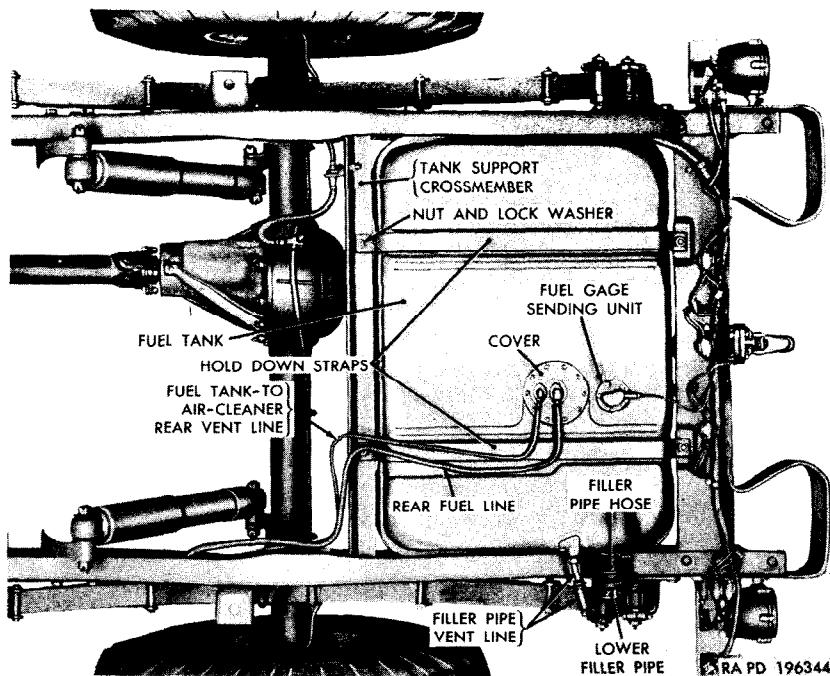
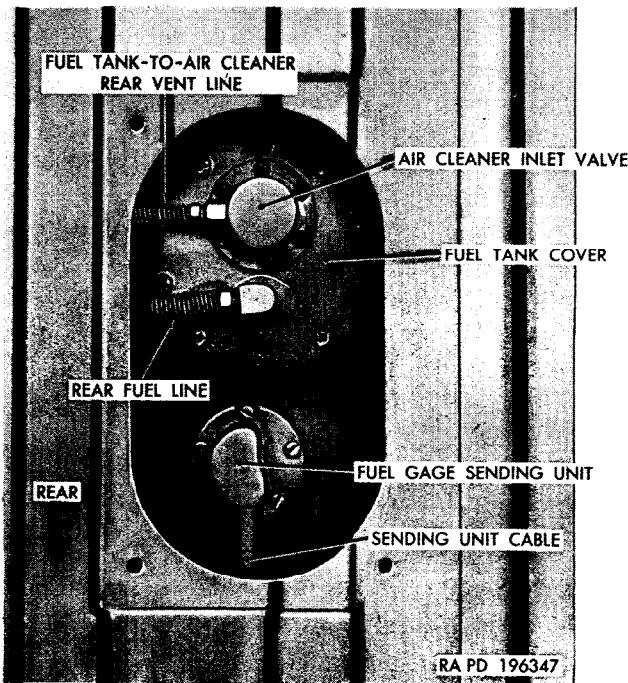

Figure 111. Fuel tank—top view (vehicle body removed).
Figure 114. Fuel tank cover, air cleaner inlet valve, and fuel gage sending unit.
- (1) Drain the fuel tank.
- (2) Remove the inspection hole cover from the floor panel and disconnect the fuel tank rear vent line (fig. 114), the rear fuel line, and the fuel gage sending unit cable.
- (1) Install the parts that were removed from the tank (*a(7)* above), using new gaskets for the lower filler pipe, the fuel gage sending unit (fig. 111), and the fuel tank cover and replacing any parts that are unfit for further service.
- (2) Apply a coating of liquid-type gasket cement to the upper and lower filler pipes and the upper and lower filler pipe vent lines and install new hoses on the upper filler pipe and upper vent line. Use a 3-inch length of $2\frac{1}{4}$ -inch (ID) hose for the filler pipe and a $2\frac{7}{8}$ -inch length of $\frac{1}{2}$ -inch (ID) hose for the vent line. Install the two hose clamps on each hose, and push hoses on lower filler pipe and lower vent line as far as they will go.
- (3) Install the tank in position under the two holdown straps, raising the left end first to position it between the frame left side rail and the vehicle body. Raise the right end of the tank into place and support it from the bottom between the support straps. Position the two support straps with the
- (4) Position the two hoses on the upper and lower filler pipes and upper and lower vent lines. Position the hose clamps and tighten the hose clamp screws.
- (5) Working through the inspection hole in the floor, connect the fuel tank rear vent line, the rear fuel line, and the fuel gage sending unit cable (fig. 111).
- (6) Install the inspection hole cover (par. 139c(14)).
- (7) Close the drain cock and fill the fuel tank.
a. General. The fuel gage sending unit and the air cleaner inlet valve are located at the top of the fuel tank. Both are accessible when the inspection hole cover is removed from the floor panel. The air inlet valve, on vehicles of early production, is a part of the fuel tank cover. On later vehicles, the air cleaner inlet valve (fig. 114) is a separate unit mounted on the fuel tank cover (par. 6).
b. Replace Fuel Gage Sending Unit (fig. 114).
- (1) Remove the four lockwasher screws that secure the inspection hole cover to the floor panel and remove the cover.
- (2) Disconnect the sending unit cable at the cable connector.
- (3) Remove the five screws and washers that secure the sending unit to the fuel tank. Lift the sending unit and tilt it toward the rear to remove the float. Remove and discard the sending unit gasket and clean the gasket surface of the tank.
- (4) Apply a light coating of liquid-type gasket cement to both sides of a new sending unit gasket, and install the gasket on the fuel tank.
- (1) Remove the floor panel inspection hole cover (b(1) above).
- (2) Disconnect the fuel tank to air cleaner rear vent line at the air cleaner inlet valve fitting.
- (3) On vehicles with the inlet valve in the fuel tank cover, disconnect the rear fuel line at the elbow in the cover (fig. 111).
- (4) If the inlet valve is a separate unit, remove the six screws and lockwashers that secure the inlet valve to the fuel tank cover (fig. 114). If the inlet valve is a part of the cover, remove the 10 lockwasher screws that secure the cover. Remove the air cleaner inlet valve or the cover. Remove and discard the inlet valve gasket or the cover gasket.
- (5) Clean the gasket surface of the cover on the fuel tank, being careful to prevent dirt from dropping into the fuel tank.
- (6) If the vent line fitting in the air inlet valve (or cover) is not damaged, remove the fitting. If the fuel line was disconnected for removal of the cover, also remove the fuel line elbow.
- (7) Apply a light coating of liquid-type gasket cement to both sides of a new gasket (air inlet valve or fuel tank cover, as required) and install the gasket.
- (8) If the inlet valve is a separate unit, install the valve on the cover, and install the six lockwashers and screws.
- (9) If the inlet valve is a part of the fuel tank cover, install the cover on the tank with the fuel and vent line openings in proper position for connecting the lines (fig. 111). Install the 10 special lockwasher screws.
- (10) Install a $\frac{3}{16}$ -inch, 90° , $\frac{1}{8}$ -inch male pipe end, inverted flared tube elbow in the cover or a $\frac{3}{16}$ -inch, $\frac{1}{8}$ -inch male pipe end, inverted flared tube connector in the air cleaner inlet valve. Tighten fittings. If the fuel line elbow was removed, install a $\frac{5}{16}$ -inch, 90° , $\frac{1}{4}$ -inch male pipe end, inverted flared tube elbow in the cover.
- (11) Connect the rear vent line to the elbow in the fitting in the inlet valve or cover. If the fuel line was disconnected ((8) above) connect the rear fuel line to the fuel line elbow. Tighten the line nuts.
- (12) Install the floor panel inspection hole cover (*b* (6) above).